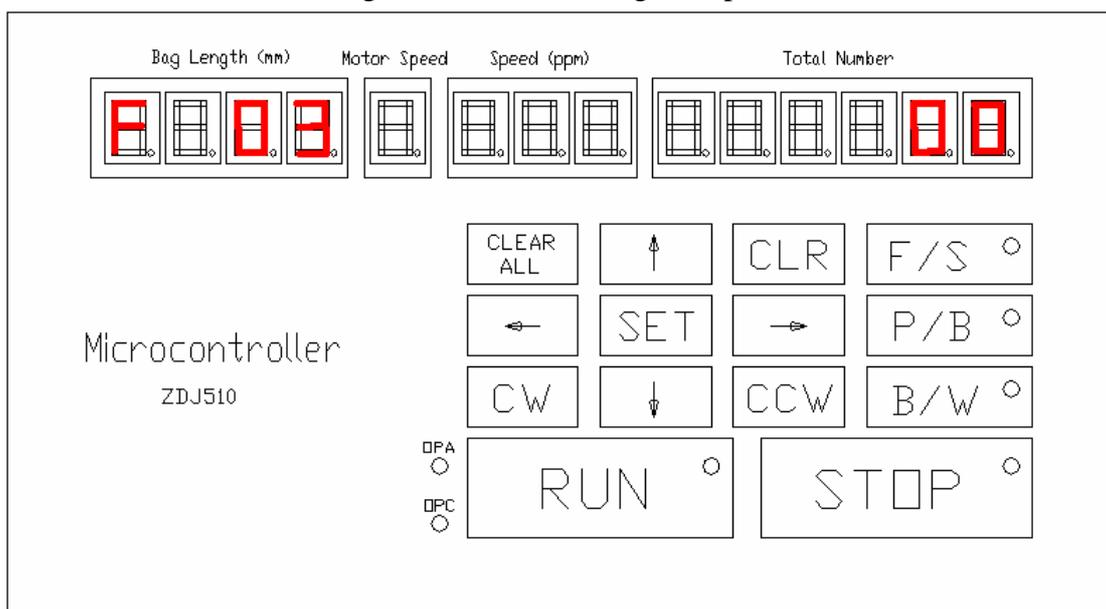

Figure 3. F 03 Bag Pause Number Set
- **Number of pause:** the pausing number after bag group reaches. Only when stopping can number of pause be modified. Press button 'SET' until 'F03' appears. Refer to Figure 3 in Appendix 1. '←' and '→' are used to circularly choose digit for modification. '↑' and '↓' are used to change the value. Max 99, Min 0 (i.e., No pausing).